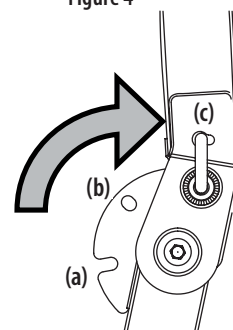

Figure 5
- Move the ROPS into the desired position. See Figure 5.